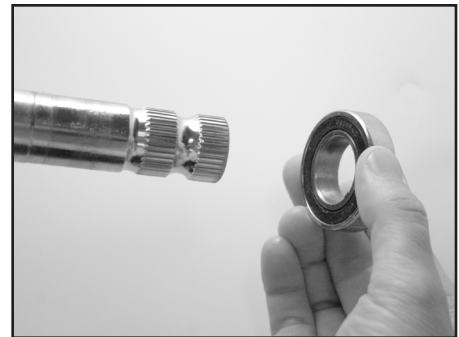

Figure 3
9. Slide the lower bearing down the shaft and remove. Figure 3